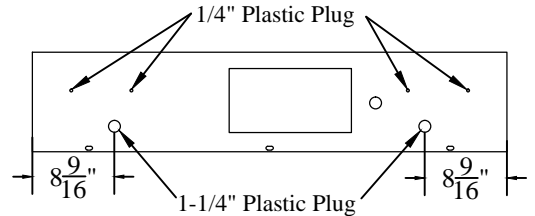

Figure 19: Box cover access holes.
5. Remove the plastic plugs from the box cover at locations shown (Figure 19).
Note: If this light kit is being installed on an older liftgate with smaller access holes or no holes at all, two 1-1/4" diameter holes must be drilled in the locations shown (Figure 19).